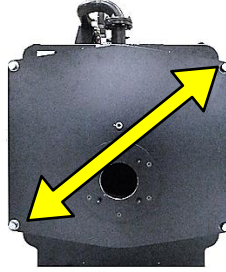

Figure 3-9: Switching Upper Right and Lower Left Nuts
8. Perform the same procedure above, only by reversing the lower left opening-side nut with the upper right hinge-side nut, as illustrated in Figure 3-9.